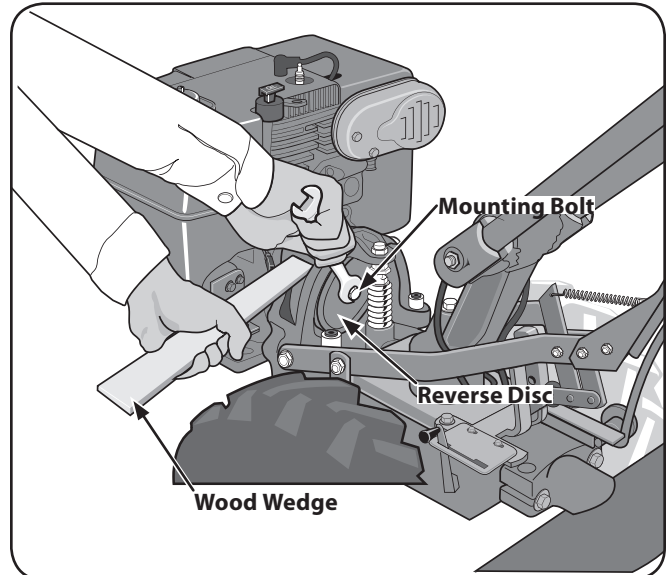

Figure 7-6
3. Use a  $\frac{1}{16}$ " wrench to loosen the mounting bolt shown in Fig. 7-6. Remember to immobilize the pulley with the wood wedge while loosening the bolt. If necessary, pry the disc from the pulley with the tip of a screwdriver. Back the bolt out as far as possible. Then angle the disc a little to remove it. Bring the bolt and lockwasher along with the disc. Installing a new Reverse Disc.